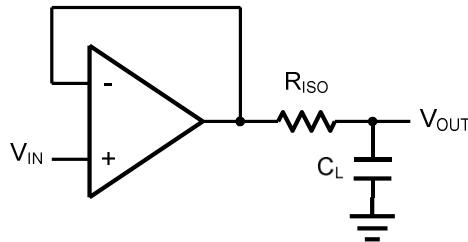
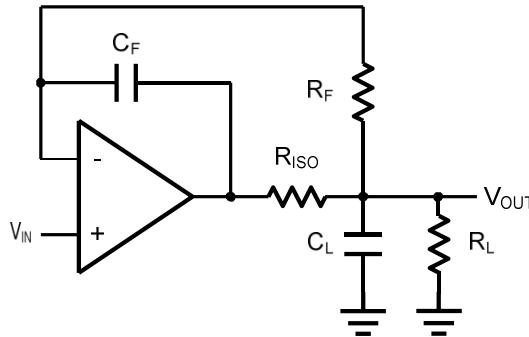

Figure 2 Indirectly Driving a Capacitive Load Using Isolation Resistor
Figure 3. Indirectly Driving a Capacitive Load with DC Accuracy
The HGV6001 family is optimized for bandwidth and speed, not for driving capacitive loads. Output capacitance will create a pole in the amplifier's feedback path, leading to excessive peaking and potential oscillation. If dealing with load capacitance is a requirement of the application, the two strategies to consider are (1) using a small resistor in series with the amplifier's output and the load capacitance and (2) reducing the bandwidth of the amplifier's feedback loop by increasing the overall noise gain. Figure 2 shows a unity gain follower using the series resistor strategy. The resistor isolates the output from the capacitance and, more importantly, creates a zero in the feedback path that compensates for the pole created by the output capacitance.
The circuit in Figure 3 is an improvement to the one in Figure 2. R_F provides the DC accuracy by feed-forward the V_{IN} to R_L . C_F and R_{ISO} serve to counteract the loss of phase margin by feeding the high frequency component of the output signal back to the amplifier's inverting input, thereby preserving the phase margin in the overall feedback loop. Capacitive drive can be increased by increasing the value of C_F . This in turn will slow down the pulse response.